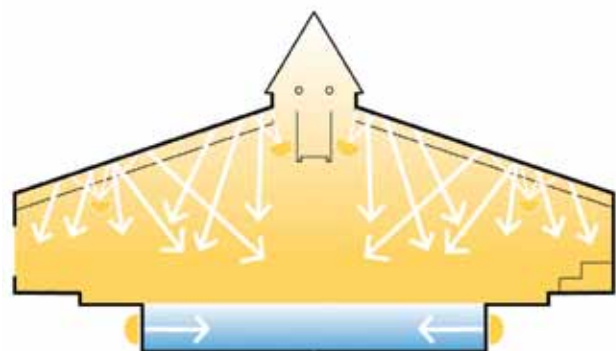

Fig.3 Swimming pool hall lighting layout example. Access to luminaires from poolside and overhead gantry.
- Use of indirect lighting is a good approach for swimming pool halls to give uniform, glare free illumination (Figure 3).